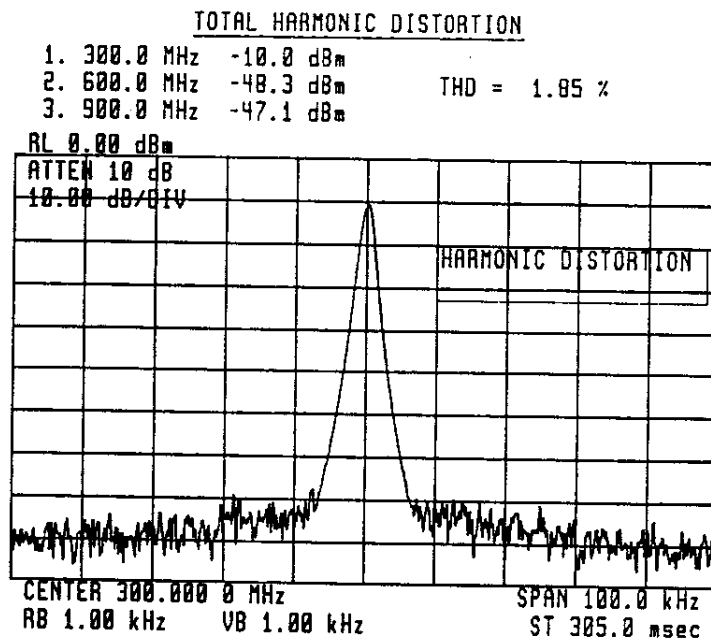

Figure 6-1. Total Harmonic Distortion of a 300 MHz Signal
5. Enter **300 MHz**, **ACCEPT VALUE**. The routine measures and displays the fundamental, second, and third harmonics of the source. The total harmonic distortion, in percent, is calculated as the square root of the *sum* of the squares of the second and third harmonic distortion components (Figure 6-1).